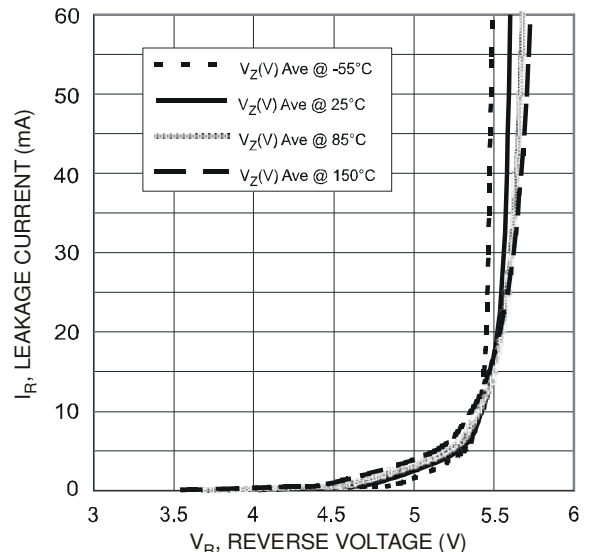

Fig. 9 Typical Reverse Characteristic
e.g. If $I_{pp} = 1A$, $V_{CL} = V_z + R_d * I_{pp} = 5.6 V$ (from fig. 9) + $1A * 0.115 \text{ Ohm} = (5.6 + 0.115)V = 5.715 V$ (close to actual measured Value)